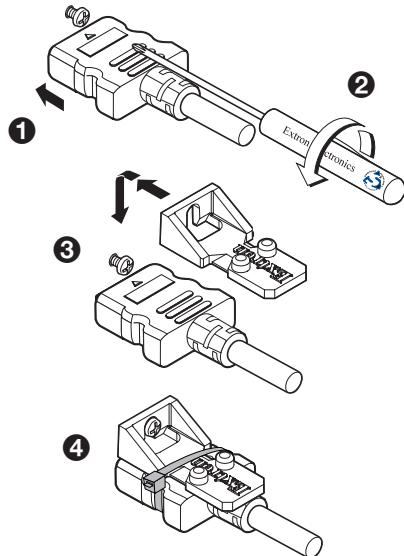

Figure 12. Mounting a LockIt Cable Lacing Bracket
1. Plug the HDMI cable into the panel connection (see figure 12, ①).
2. Loosen the HDMI connection mounting screw from the panel enough to allow the LockIt lacing bracket to be placed over it (②). The screw does not have to be removed.
3. Place the LockIt lacing bracket on the screw and against the HDMI connector, then tighten the screw to secure the bracket (③).
5. While holding the connector securely against the lacing bracket, use pliers or a similar tool to tighten the tie wrap, then remove any excess length (④).